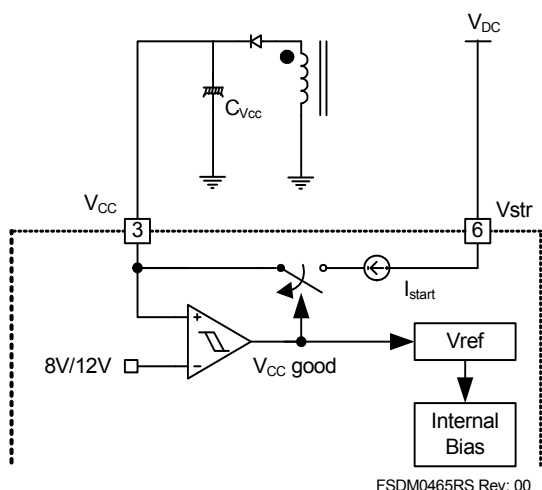

Figure 17. Internal startup circuit
**1. Startup:** In previous generations of Fairchild Power Switches (FPS™) the  $V_{CC}$  pin had an external start-up resistor to the DC input voltage line. In this generation the startup resistor is replaced by an internal high-voltage current source. At startup, an internal high-voltage current source supplies the internal bias and charges the external capacitor ( $C_{VCC}$ ) that is connected to the  $V_{CC}$  pin as illustrated in Figure 17. When  $V_{CC}$  reaches 12V, the FSDM0465RS begins switching and the internal high-voltage current source is disabled. Then, the FSDM0465RS continues its normal switching operation and the power is supplied from the auxiliary transformer winding unless  $V_{CC}$  goes below the stop voltage of 8V.